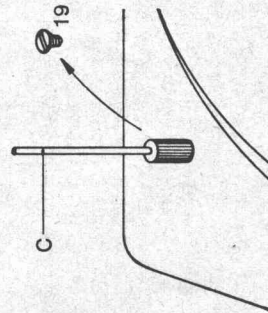

Fig. 3
See Fig. 3. The Lencoclean Record Cleaning Device which cleans and moistens the record while it is being played, thereby reducing the unwanted noi- ses to a minimum as well as increasing considerably the life of the record, can easily be fixed to the L 75. Remove the screw (19) in the left hand rear corner of the base plate, and in its place screw in the spindle (C). Remove the adjustable bearing from the base supplied with the Lencoclean, and place it on spindle (C), then place the Lencoclean on the spindle.